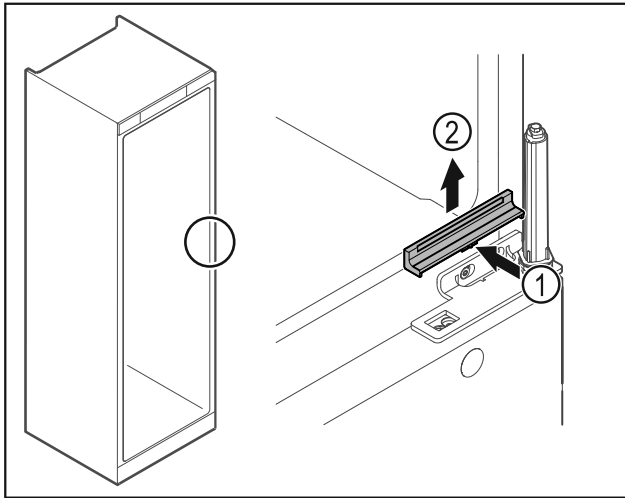

Fig. 32
- ▶ Gently press the middle of the cover Fig. 32 (1) and lift it off Fig. 32 (2).